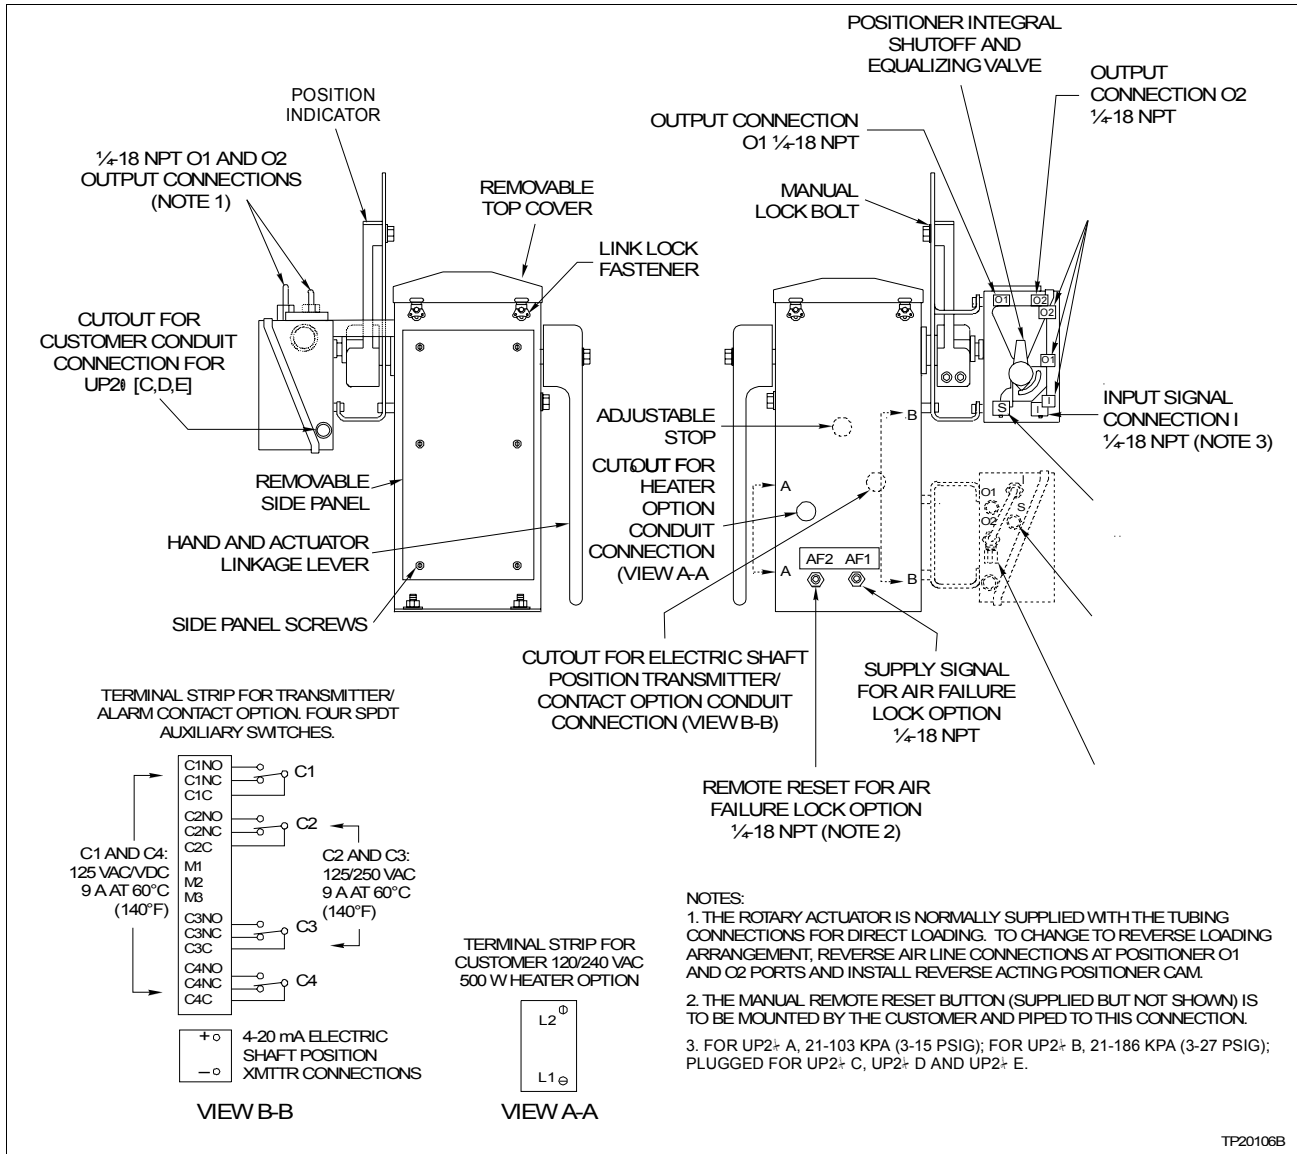

Figure 3-2. Type UP2 Actuator with Type AV Positioner
**NOTE:** Refer to Figure 3-2.